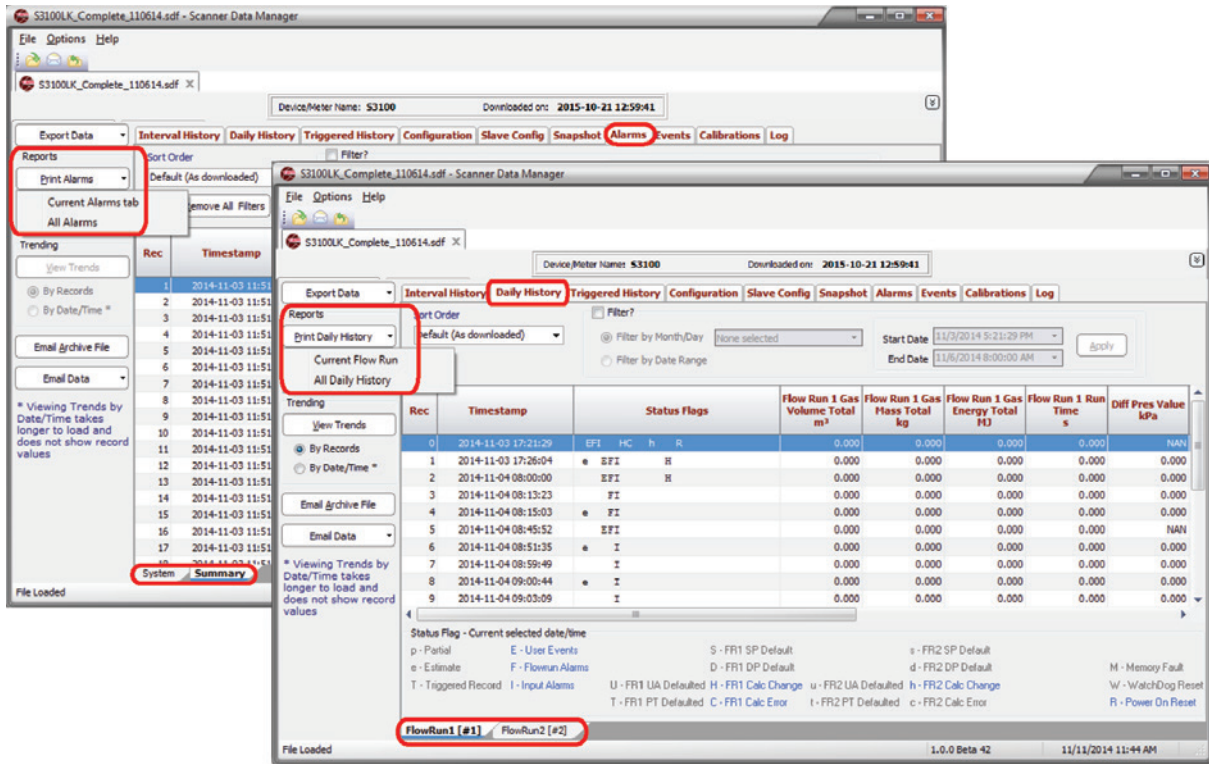

Figure 4.2—Daily History and Alarm tabs showing data divided into multiple tabs
For some log types and reports, archive data is divided into multiple tabs at the bottom of the screen (Figure 4.2, page 43). For example, interval and daily history data are divided by flow runs. Similar divisions exist for alarms, events, and slave device configuration data.
Where a log type or report includes multiple tabs, the user has the option of creating a report for a single “current” tab or for “all” tabs. Log types and report types containing these options are identified by the dropdown arrow on the **Print [Data Type]** button at the left of the screen (Figure 4.2, page 43).
3. Click the **Print [Data Type]** button and select “Current [Data Type]” from the dropdown menu (Figure 4.2, page 43). A preview of the report will appear (see Figure 4.3, page 43).